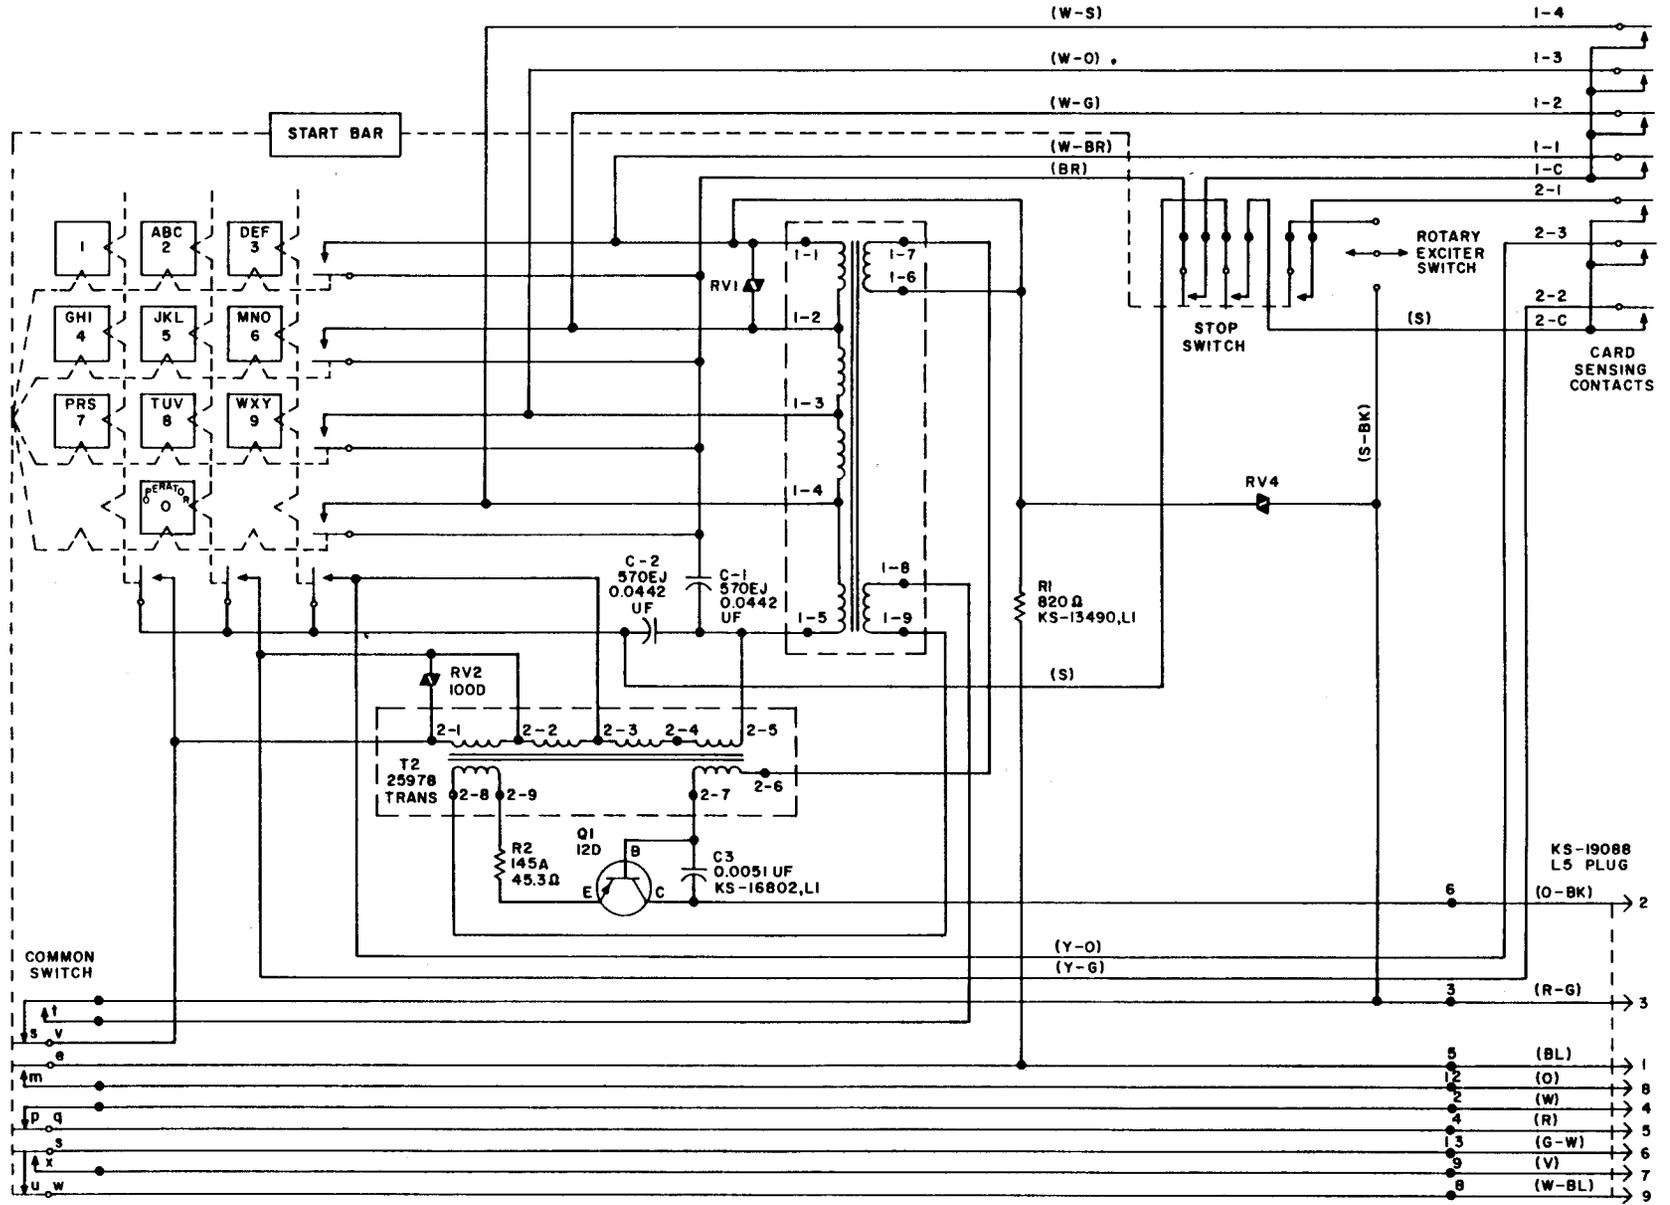

Fig. 10 — 26G Dial, Connections
- Fig. 10 — 26G Dial, Connections